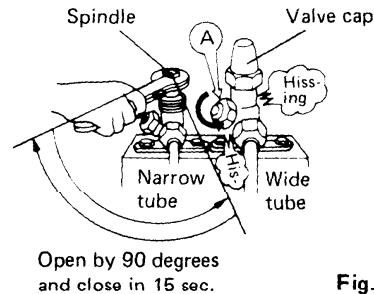

Fig. 33
- b) Loosen the flare nut (A) of wide tube by 180 degrees (1/2 turn). Fig. 33